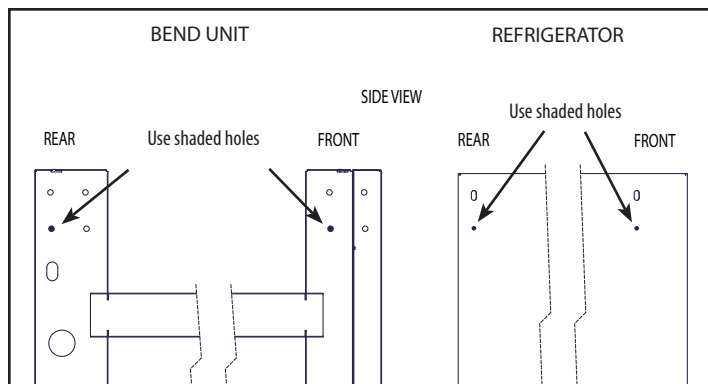

Fig. 16
5. Secure the two together using (2) hex bolts (1/4-20 x 1/2") through the bottom/rear set of holes in the Bend Unit into the bottom holes in the refrigerator (Fig. 16).